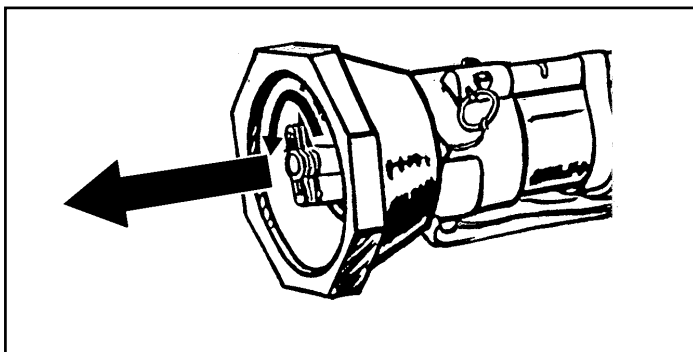

Figure B-12. Unloading the tracer trainer.
f. **Unloading.** With the tracer trainer still on the firer's shoulder, the trainer or instructor removes the bolt by turning it counterclockwise past the "S," then pulling the bolt from the breech (Figure B-12). If more rounds are to be fired, he removes the expended cartridge and reloads the bolt.